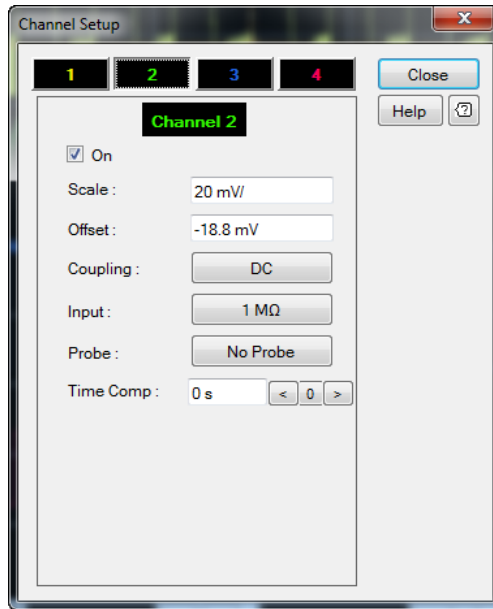

Figure 2-9 Video input Channel Setup dialog
- 3 For the video input channel, the Channel Setup dialog is displayed as shown in Figure 2-9.